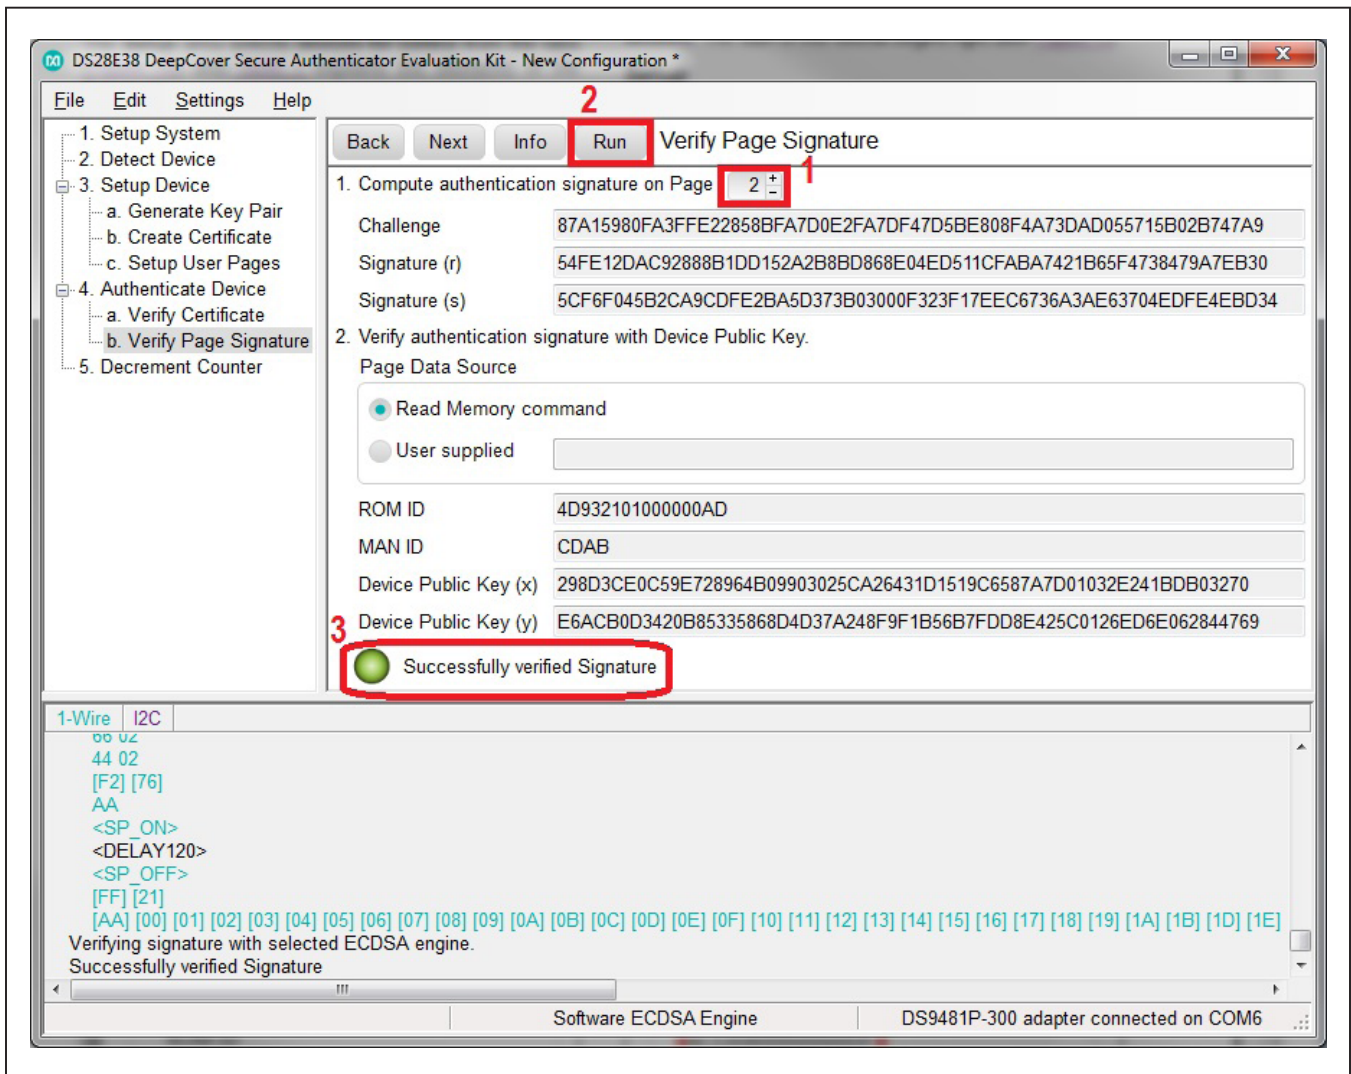

Figure 22. Verify the Signature
b. The host now needs to verify a page signature. Adjust the **Compute authentication signature on Page** field to page 2 where your user data resides. Click on the **Run** button for the host to verify the signature from page 2 of the DS28E38. Confirm the status updated displays **Successfully verified Signature** (Figure 22). During the run process, the host sent a challenge (i.e., generated by the RNG of the host) to the DS28E38 and requested a signature of page 2. The host then reads the signature generated and the page 2 data. Lastly, the host verifies the signature with the device public key. The DS28E38 can now be considered authenticated,